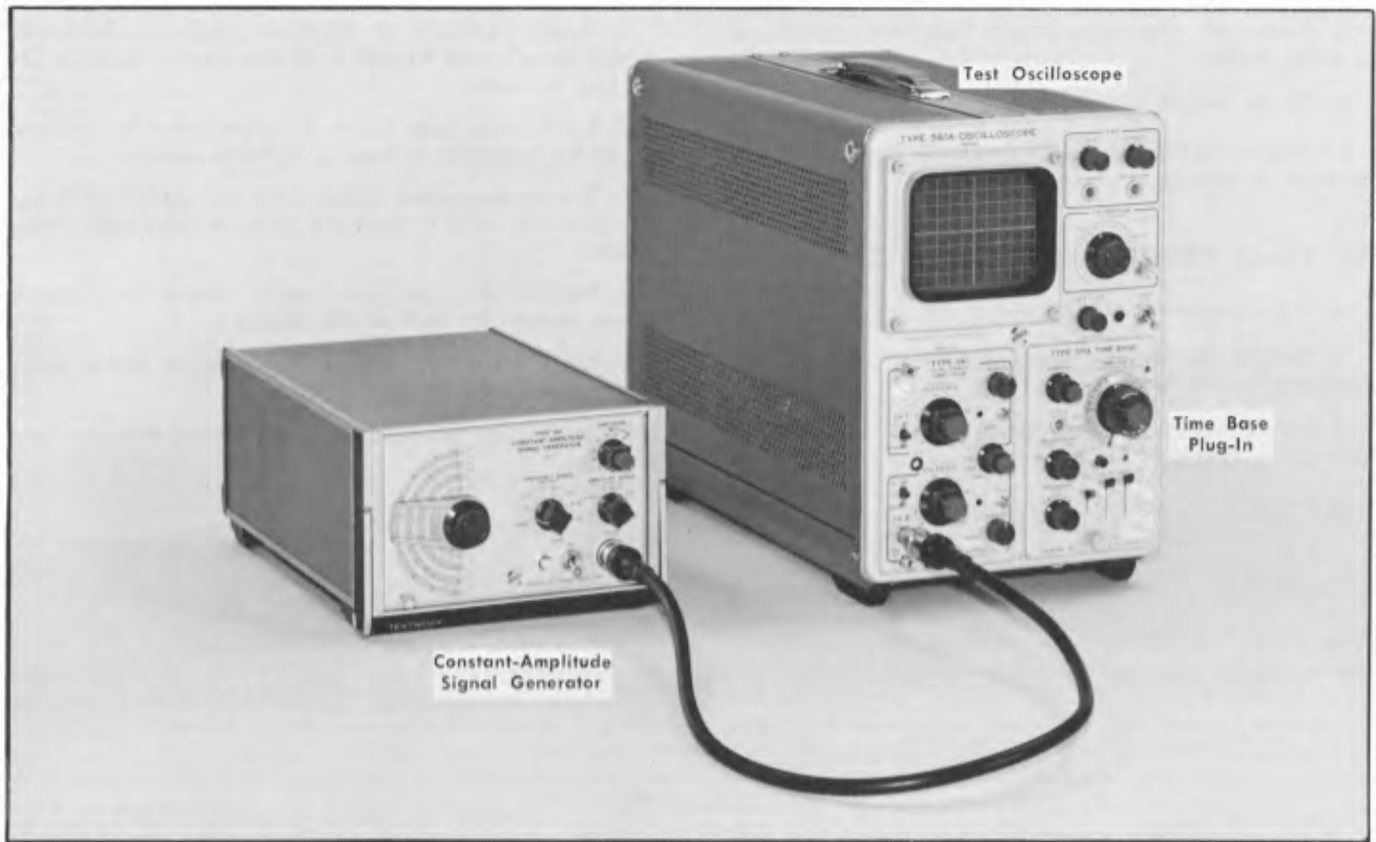

Fig. 7-22. Test equipment setup for steps 19 and 20.
- a. Test equipment setup is shown in Fig. 7-22.